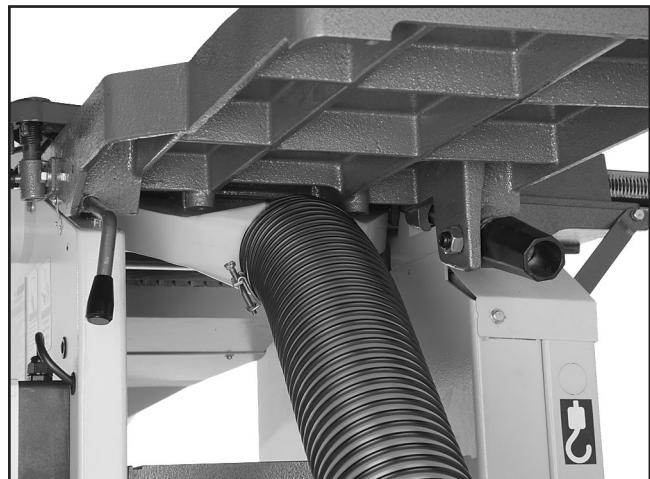
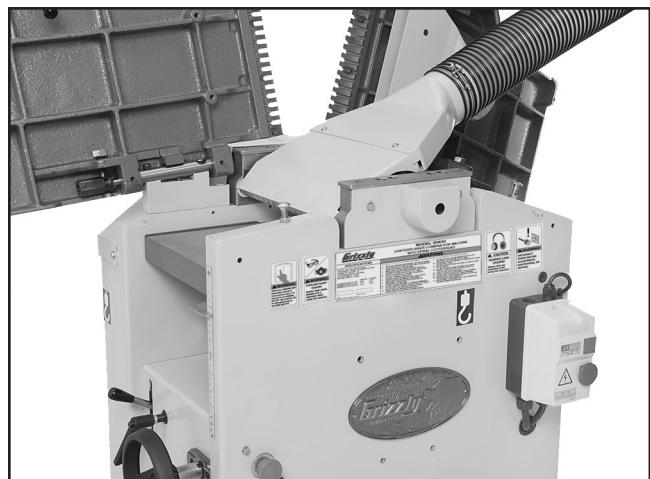

Figure 15. Dust hose attached to jointer dust port.
Figure 16. Dust hose attached to planer dust port.
1. Fit the 4" dust hose over the jointer dust port, (see **Figure 15**), or over the planer dust port (see **Figure 16**), depending upon which operation mode is setup, and secure in place with a hose clamp.